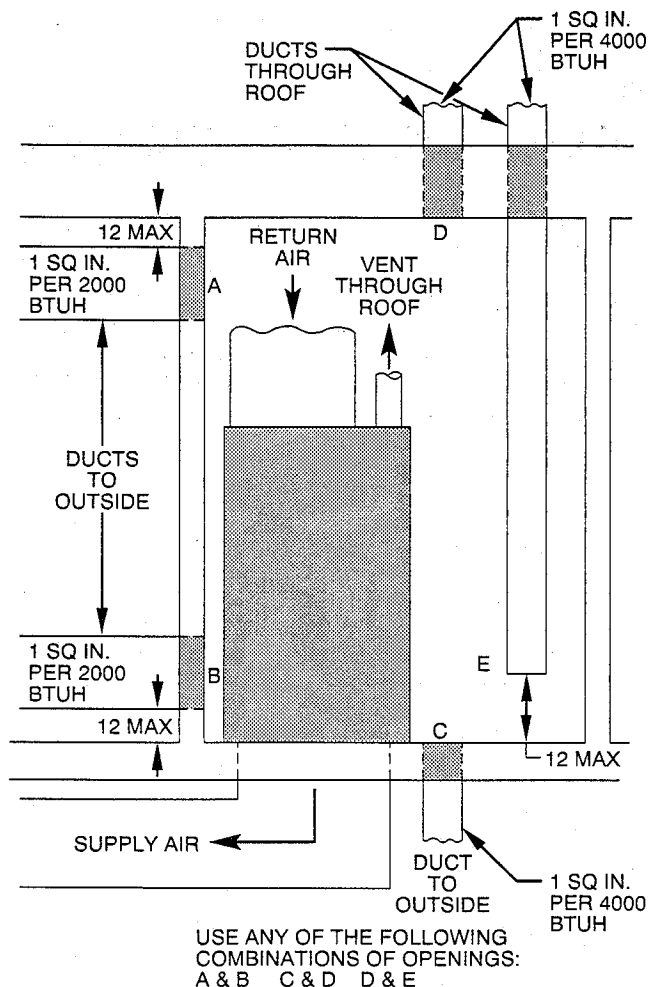

**Fig. 3—Air for Combustion and Ventilation (Outside Air)**
- If the furnace is installed on a raised platform to provide a return-air plenum, and return air is taken directly from the hallway or space adjacent to the furnace, all air for combustion must come from outdoors. (See Fig. 3.)
- b. If combustion air is taken from the outdoors through horizontal ducts, the openings and ducts **MUST** have at least 1 square in. of free area per 2000 Btuh of the total input for all equipment within the confined space. (See Fig. 3.)
When ducts are used, they must be of the same cross-sectional area as the free area of the openings to which they connect. The minimum dimension of rectangular ducts must not be less than 3 in. (See Fig. 3.)